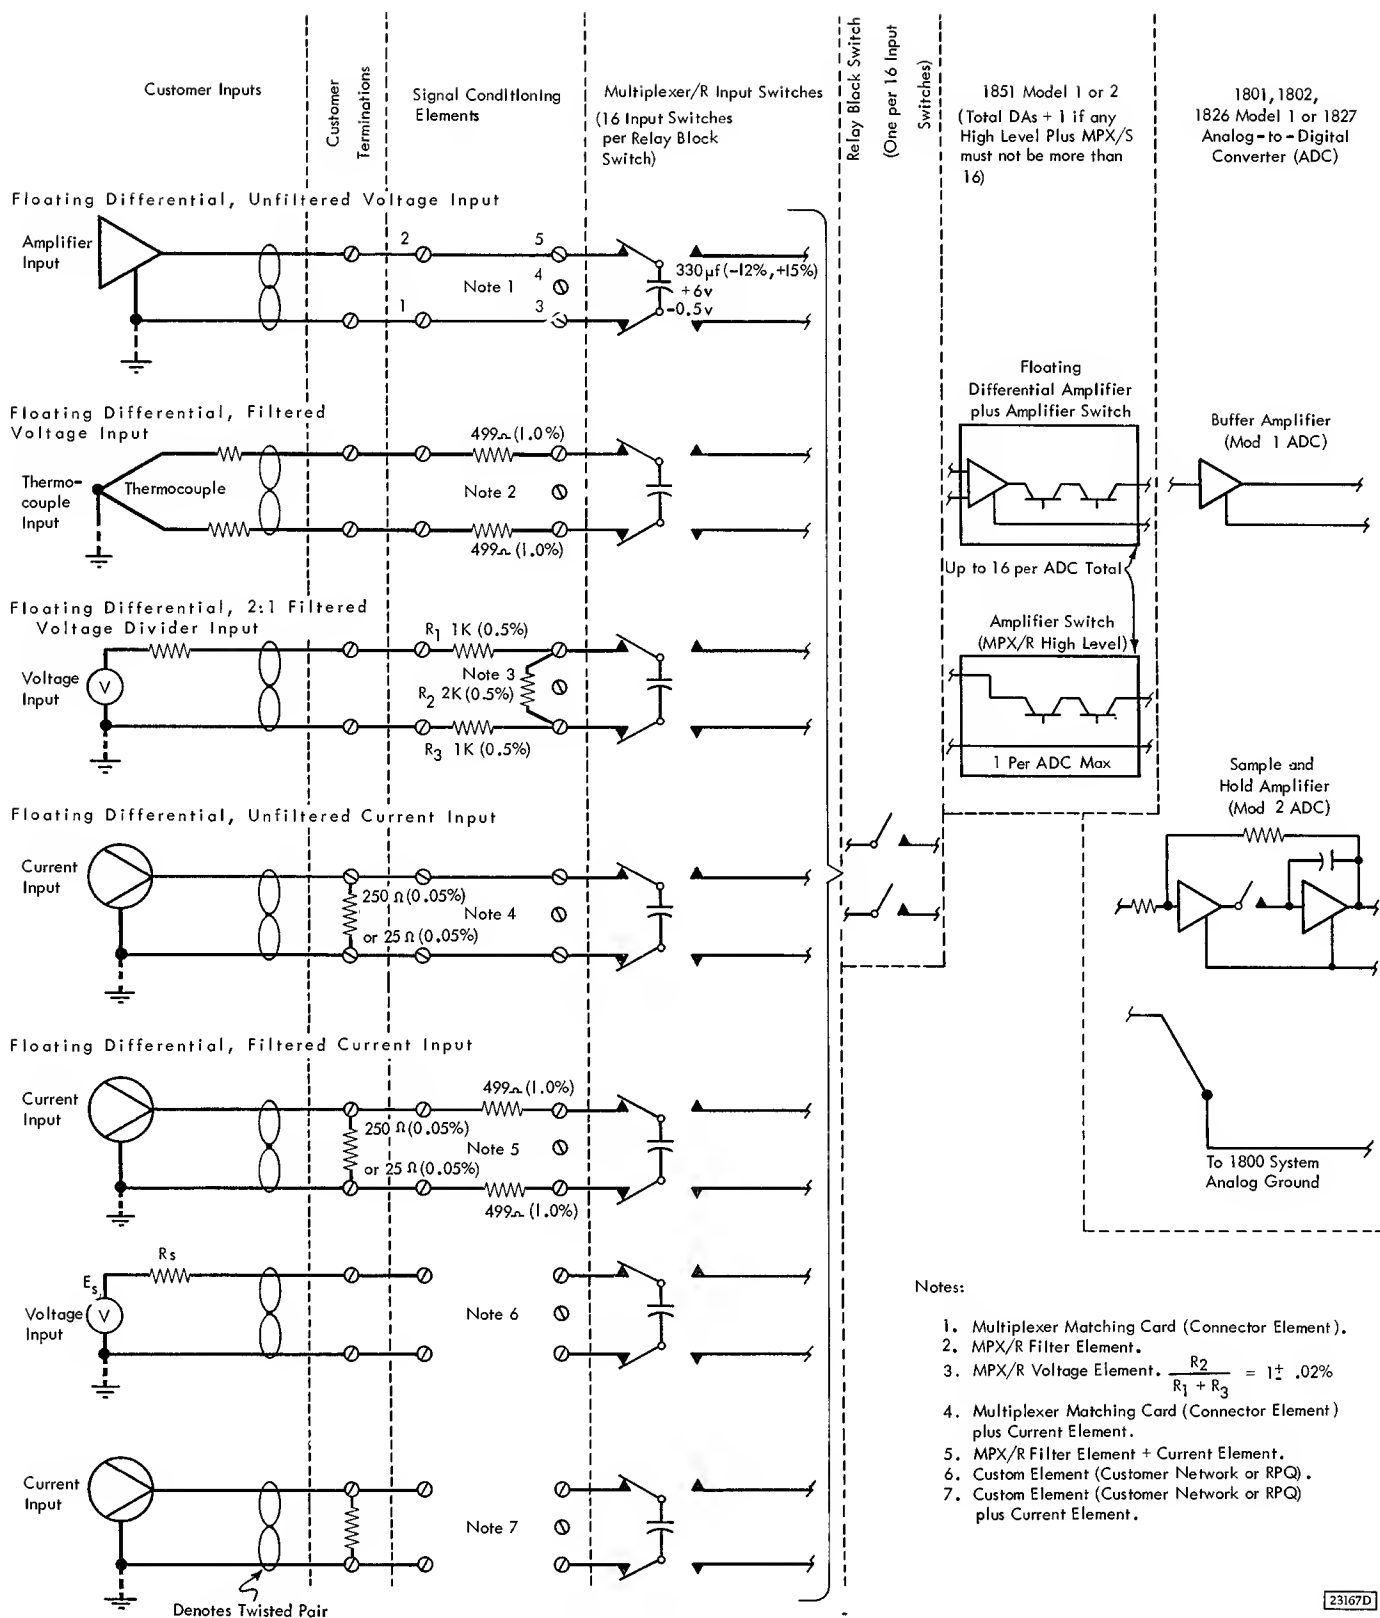

Figure 37. Relay Multiplexer Inputs (MPX/R)
1. **Input Type:** Floating differential, unfiltered voltage input using IBM Connector Element (Figure 37).
2. **Input Type:** Floating differential, filtered voltage input using IBM Filter Element (Figure 37).
3. Input Type: Floating differential, 2:1 filtered voltage divider input using IBM Voltage Element. (See Figure 37.)
4. Input Type: Floating differential, unfiltered current input using IBM Connector and Current Elements. (See Figure 37.)
5. Input Type: Floating differential, filtered current input using IBM Filter and Current Elements. (See Figure 37.)